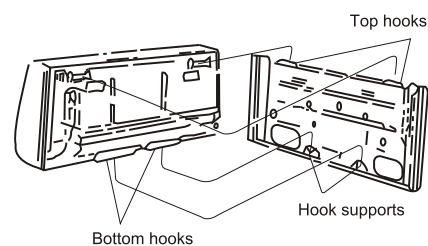

Fig 5
on the hooks at the top of the wall-mounting plate so that the hooks at the bottom of the indoor unit match the hooks of the wall-mounting plate. (Fig 5)
4. Connect the cable ends to the terminals of the indoor and outdoor units, as show in fig4, fig5.